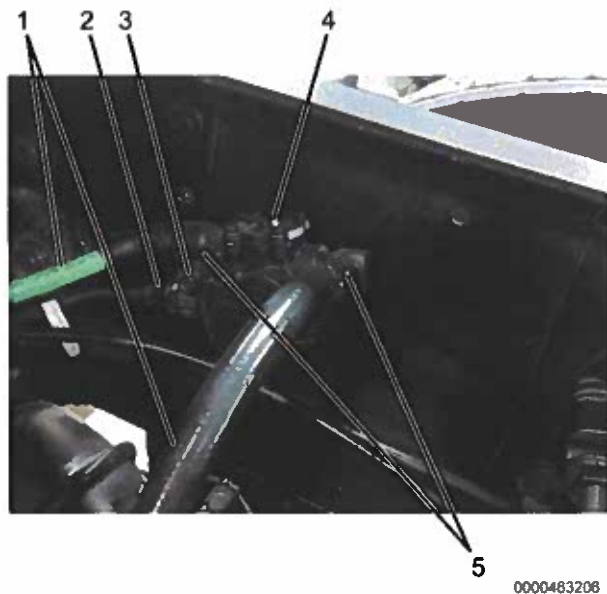

Figure 1. Air Brake Modulator Valve
6. Starting at left-side rear modulator valve (Figure 1, Item 4), remove air lines (Figure 1, Item 1) and electrical connector (Figure 1, Item 2) from valve.
7. Remove bolts (Figure 1, Item 3) holding valve to frame / crossmember.
8. Remove air line fittings (Figure 1, Item 5) from old valve.